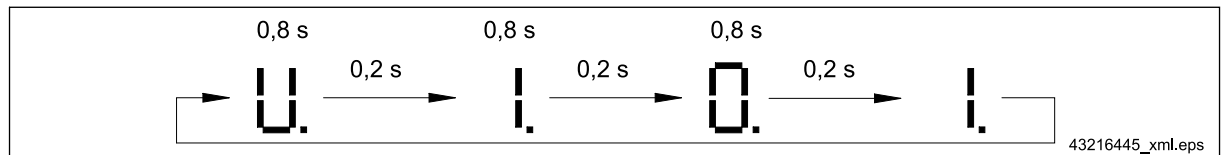

Fig. 9 Example: Software version 1.01
- Software version \Rightarrow Fig. 9, Page 31,